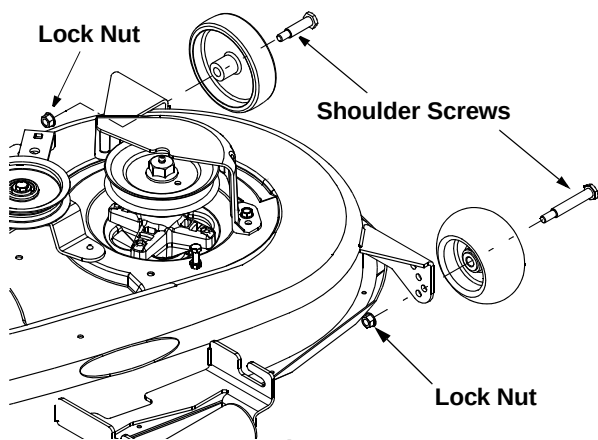

Figure 8
- b. Remove the rear deck wheels by removing the lock nuts and shoulder screws that secure them to the deck. See Figure 8.
- c. Remove the lock nuts and shoulder screws, that secure the front deck wheels to the deck. See Figure 8.